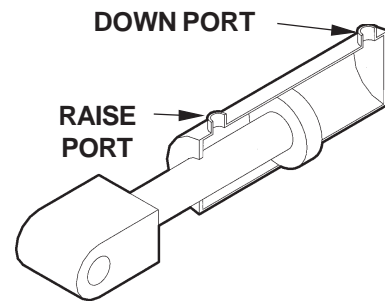

FIG. 45-2
2. Check the Hydraulic Cylinder. With the Platform on the ground, remove the hydraulic line from the Down Port of the Cylinder (**FIG. 45-2**). Raise the Platform even with the bed. Allow pump motor to run two seconds more while you watch for hydraulic fluid at the Down Port. A few drops of hydraulic fluid escaping the Down Port is normal; however, if it streams from the Down Port, Piston Seals are worn. Replace Seals.